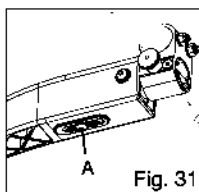

Fig. 31
- Loosen the 6mm screw located on the underside of the assembly (Fig. 31).
- Retighten the 6mm screw (Fig. 31). Do not overtighten.